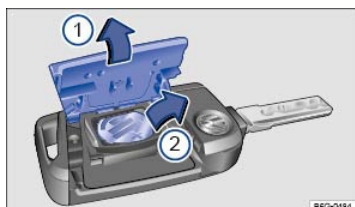

Fig. 27 Remote control vehicle key: Opening the battery compartment cover and removing the old battery.
The battery is on the back of the remote control vehicle key under a cover \Rightarrow Fig. 27①.
- Remove the cover on the back of the remote control vehicle key \Rightarrow Fig. 27① in the direction of the arrow using a suitable object such as a coin \Rightarrow ①.
- Use a thin object to pry the battery out of the battery compartment \Rightarrow Fig. 27②.
- Position the new battery in as shown and press it into the battery compartment (opposite direction of the arrow) \Rightarrow ①.